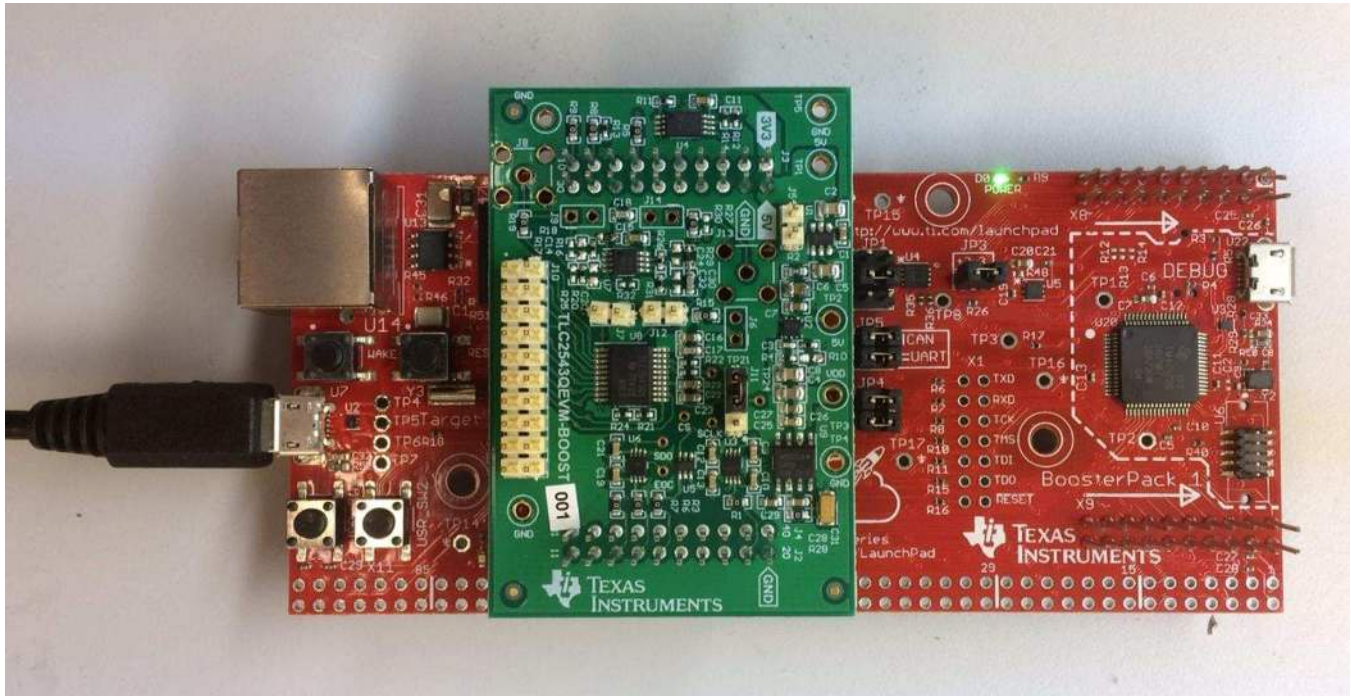

Figure 10. BOOSTXL-TLC2543 EVM stacked on TM4C1294 LaunchPad™ Development Kit
5. **Figure 10** shows the assembled BOOSTXL-TLC2543 EVM and TM4C1294 LaunchPad Development Kit configuration.